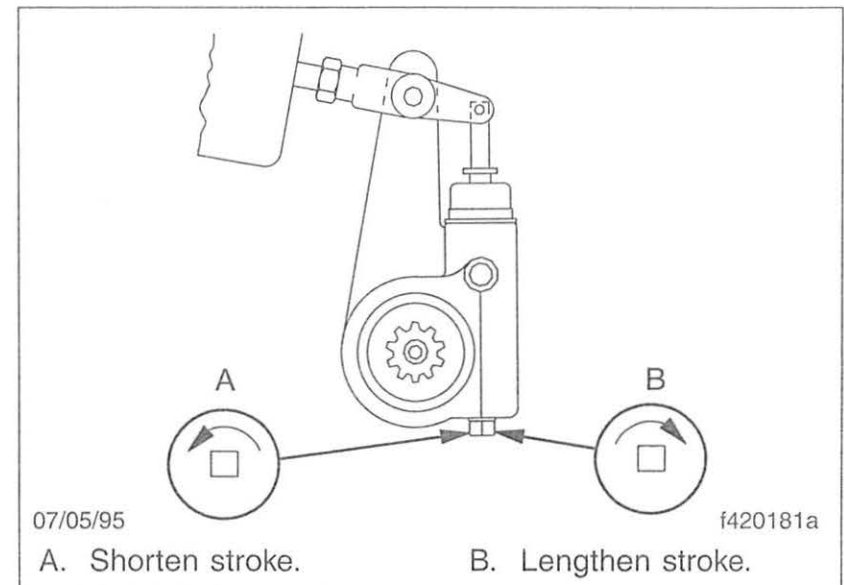

Fig. 11.21, Brake Stroke Adjusting
Turn the adjusting nut one-eighth turn, as shown in **Fig. 11.21**. Measure the stroke again and adjust until correct.
- Turn the adjusting nut one-eighth turn (**Fig. 11.21**). Measure the stroke again and adjust until correct.